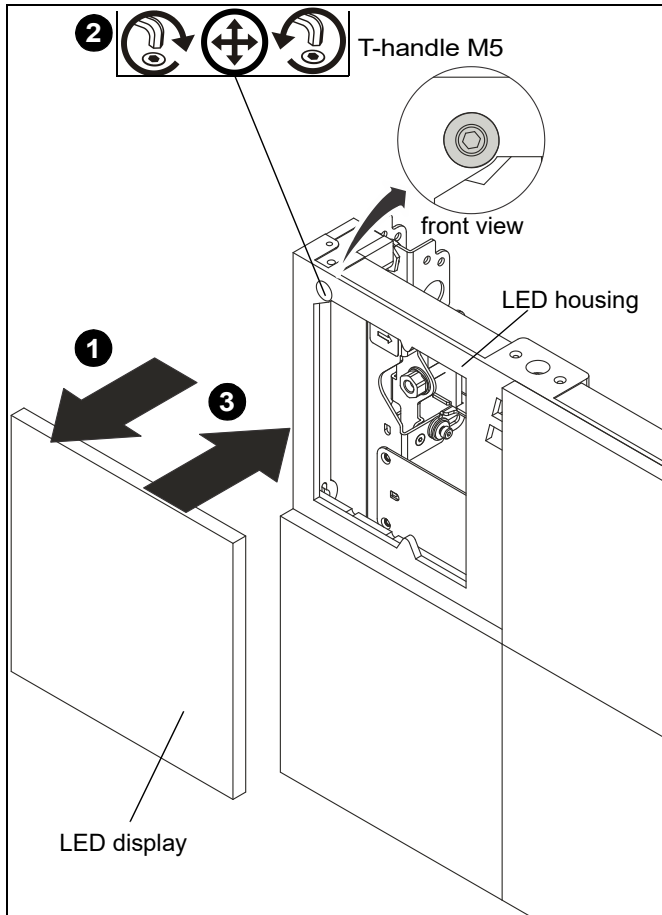

Figure 21
1. Remove LED display from LED housing. (See Figure 21)
2. Adjust depth adjustment screw until LED housing is adjusted to desired depth using T-handle M5 hex key (not included). (See Figure 21)